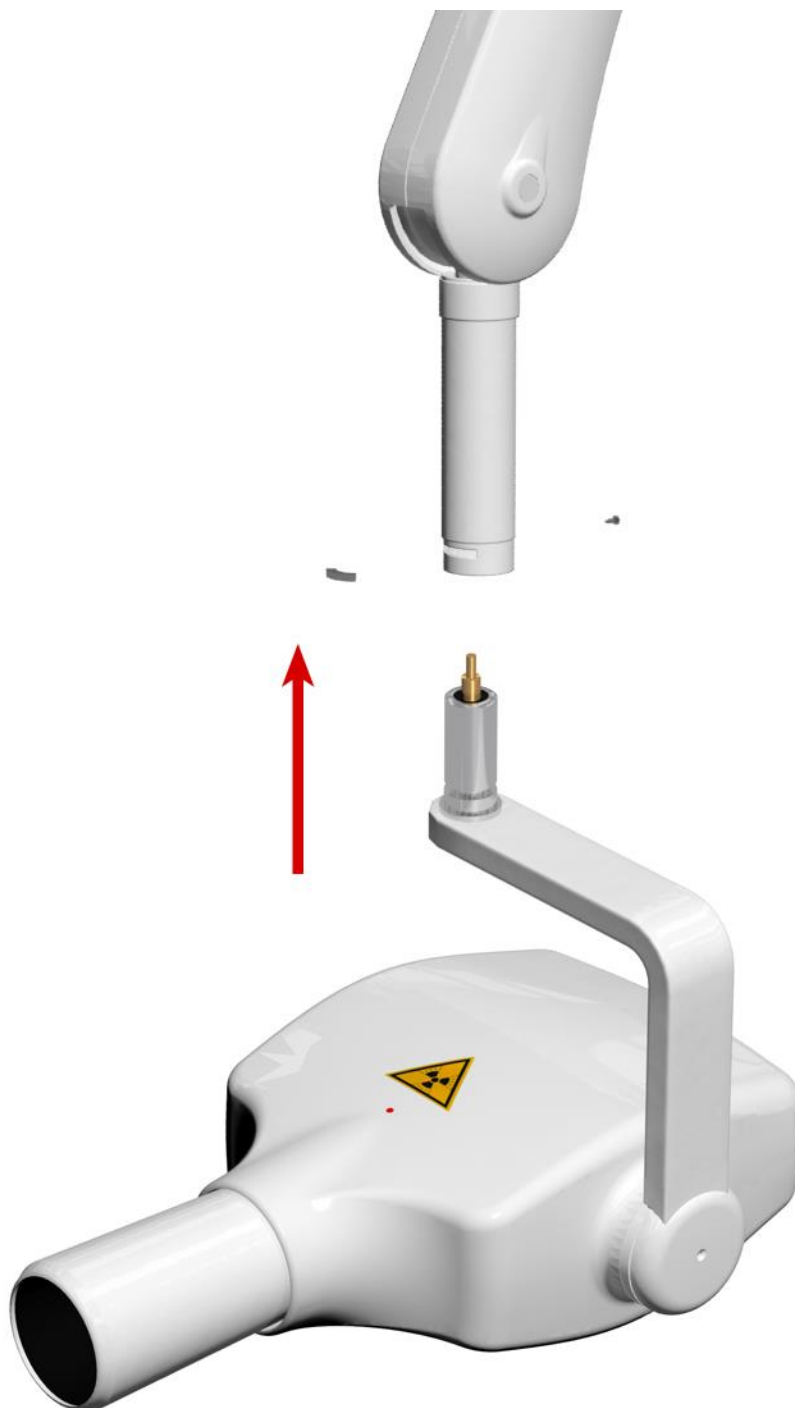

fig. 8
- ✓ Insert Monoblock **(D)** in the double pantograph arm **(C)** as shown in Fig. 8